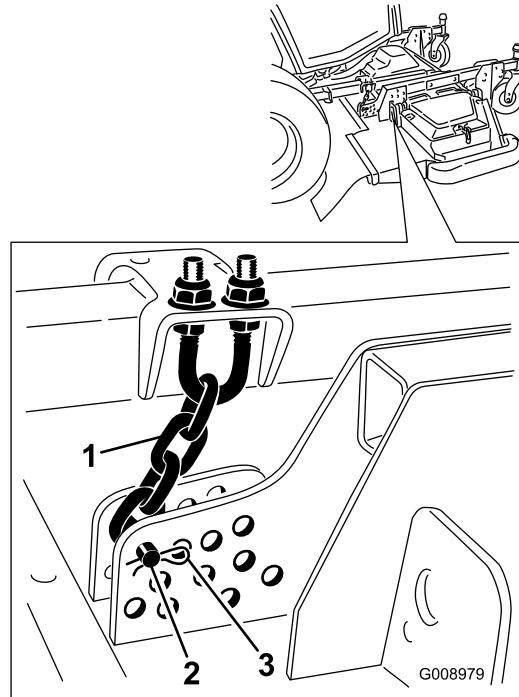

Figure 91
3. Remove the hairpin cotter and clevis pin securing the height-of-cut chains to the rear of the cutting unit (Figure 91).